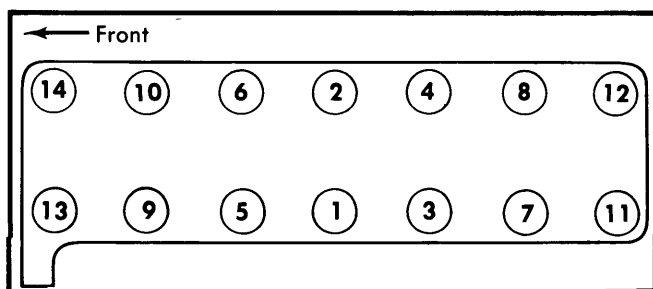

Fig. 2 Cylinder Head Tightening Sequence (Loosen in Reverse Sequence)
3) Remove intake manifold and heat shield plate. Remove turbocharger with exhaust outlet (if equipped). Remove exhaust manifold. Remove all drive belts. Remove camshaft sprocket attaching bolt and remove sprocket from timing chain. Remove oil pipe. Remove cylinder head attaching bolts in reverse of tightening sequence. See Fig. 2. Remove bolts securing cylinder head to timing cover. Remove cylinder head from engine block.
3) Tighten head bolts in several steps in the sequence illustrated in Fig. 2 to final specified torque. Recheck torque after engine has been running for several minutes.